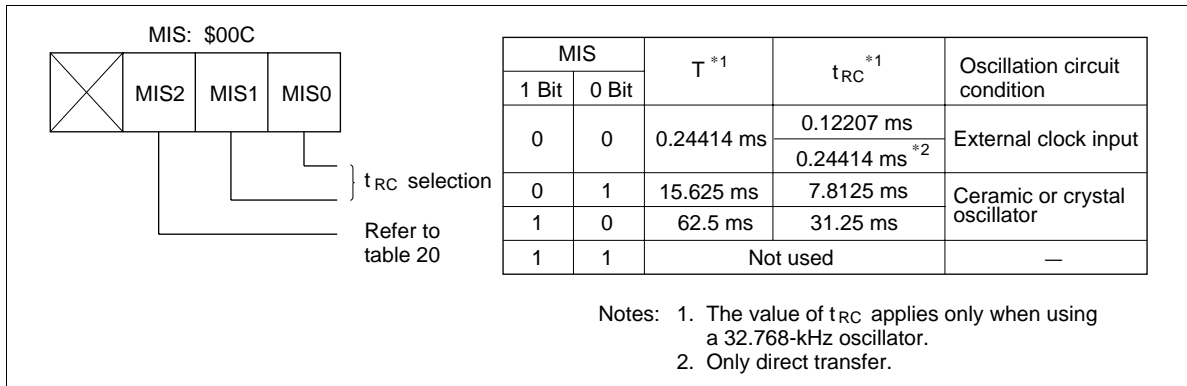

Figure 13 Miscellaneous Register
Interrupt Frame: In watch and subactive modes, ϕ_{CLK} is supplied for timer A and the \overline{INT}_0 circuit. Prescaler W and timer A operate as time bases to generate interrupt frame timing. Three interrupt frame cycles (T) can be selected by the settings of the miscellaneous register, as shown in figure 13.